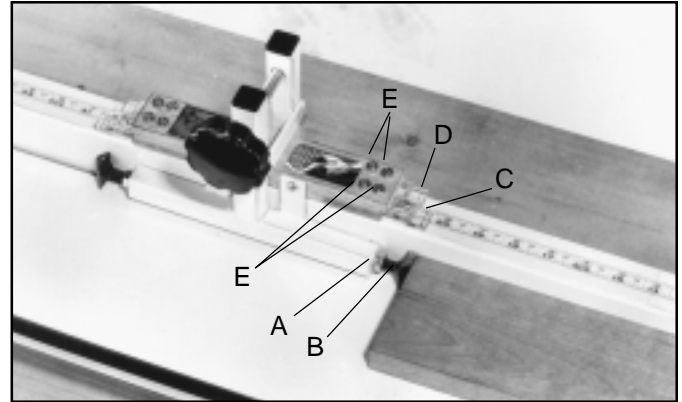
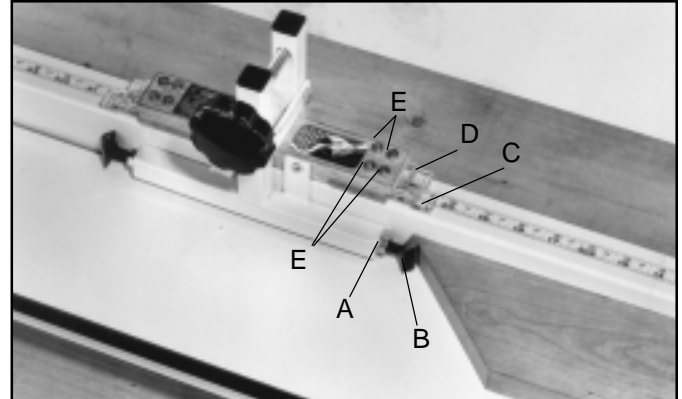

Fig. 13
Fig. 14
The 78-990 Dual Pointer Outside/Cut-Off Miter Stop is designed to act as a positive stop for 90 degree cut-off workpieces, as shown in Fig. 13, or 45 degree outside workpieces, as shown in Fig. 14. The stop (B) is adjustable by loosening locknut (A) Figs. 13 and 14, adjusting the stop (B), and tightening locknut (A). Cursor (C) Figs. 13 and 14, is provided for 90 degree square cuts and cursor (D) is used for 45 degree miter cuts. The cursors (C) and (D) are adjustable by loosening screws (E), adjusting the cursor and tightening the screws. This stop is designed to be used on either side of the saw blade, as an extra set of cursors and stop are provided on the opposite end of the miter stop.